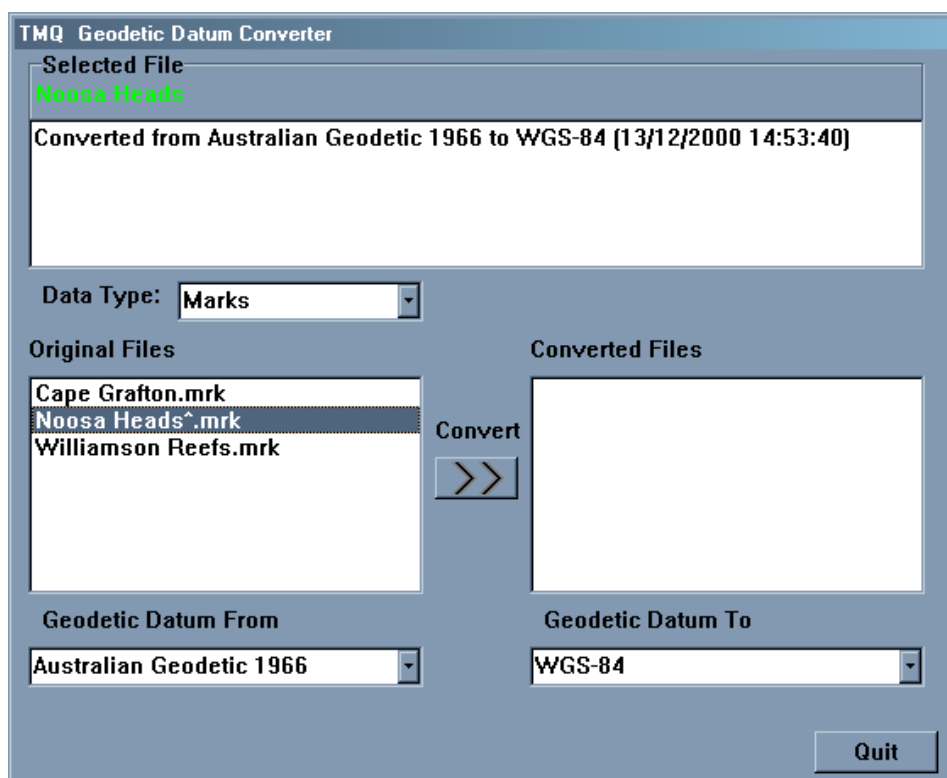

Figure 3.9
*Whenever a file is converted a '^' symbol is appended to the filename. The details of the conversions that have been performed on such a file can be viewed in the 'Selected File' section of the converter dialogue box, when the file is selected (see figure 3.9).*